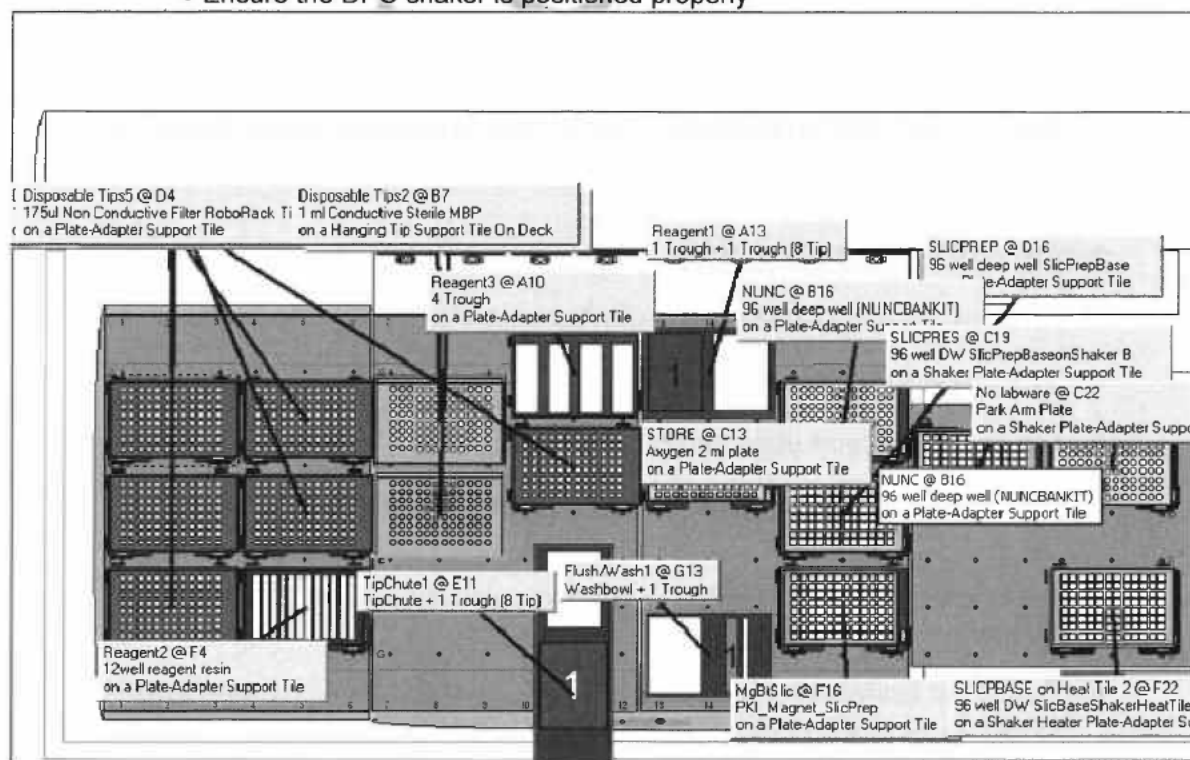

Figure 2. The WinPrep® virtual deck view displaying the necessary labware required for the Automated DNA IQ™ Method of Extraction on Extraction Platform A.
13. Decontaminate the required labware by wiping with 5% TriGene followed by 70% ethanol before placing the labware on to the designated grid positions as outlined in the virtual deck view within WinPrep® (Figure 2).